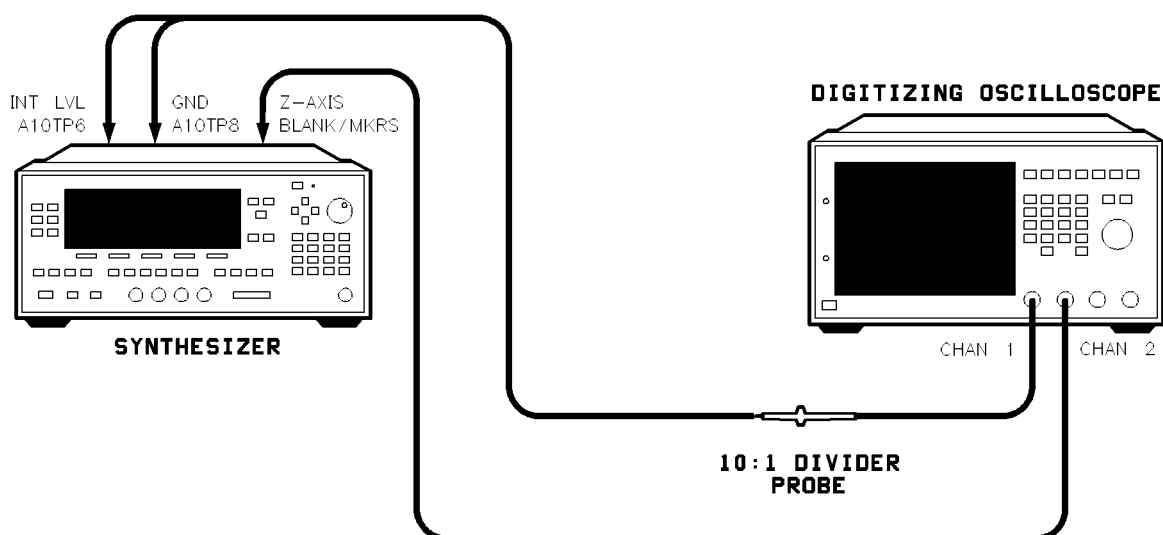

Figure 3-23. Modulator Offset and Gain Adjustment Setup
1. For 8360 B-Series only, connect the equipment as shown in Figure 3-23. Preset the instruments and let them warm up for at least one hour. For 8360 L-Series, start this test at step 2.
Select **Modify Cal**. Use the numeric keypad to enter the corresponding default value in Figure 3-23. Terminate your entry with the **ENTER** key.
7. Connect the oscilloscope as shown in Figure 3-23.